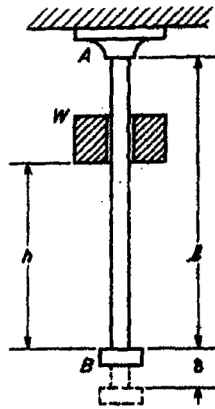

Fig. 3(a)
- 3(a) Consider a vertical bar of uniform cross-section with a flange at the lower end as shown in Fig. 3(a). Weight 'W' is released from a height 'h' and falls freely along the bar until it strikes the flange. Determine the maximum deflection ' $\delta$ ' of the bar and also calculate the maximum stress